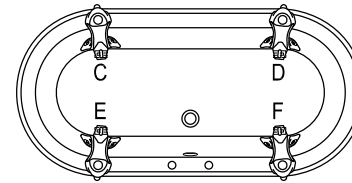

Fig. 1
- If the tub drain is located in the center, please install the tub feet pointing in a more horizontal position (Fig 1).